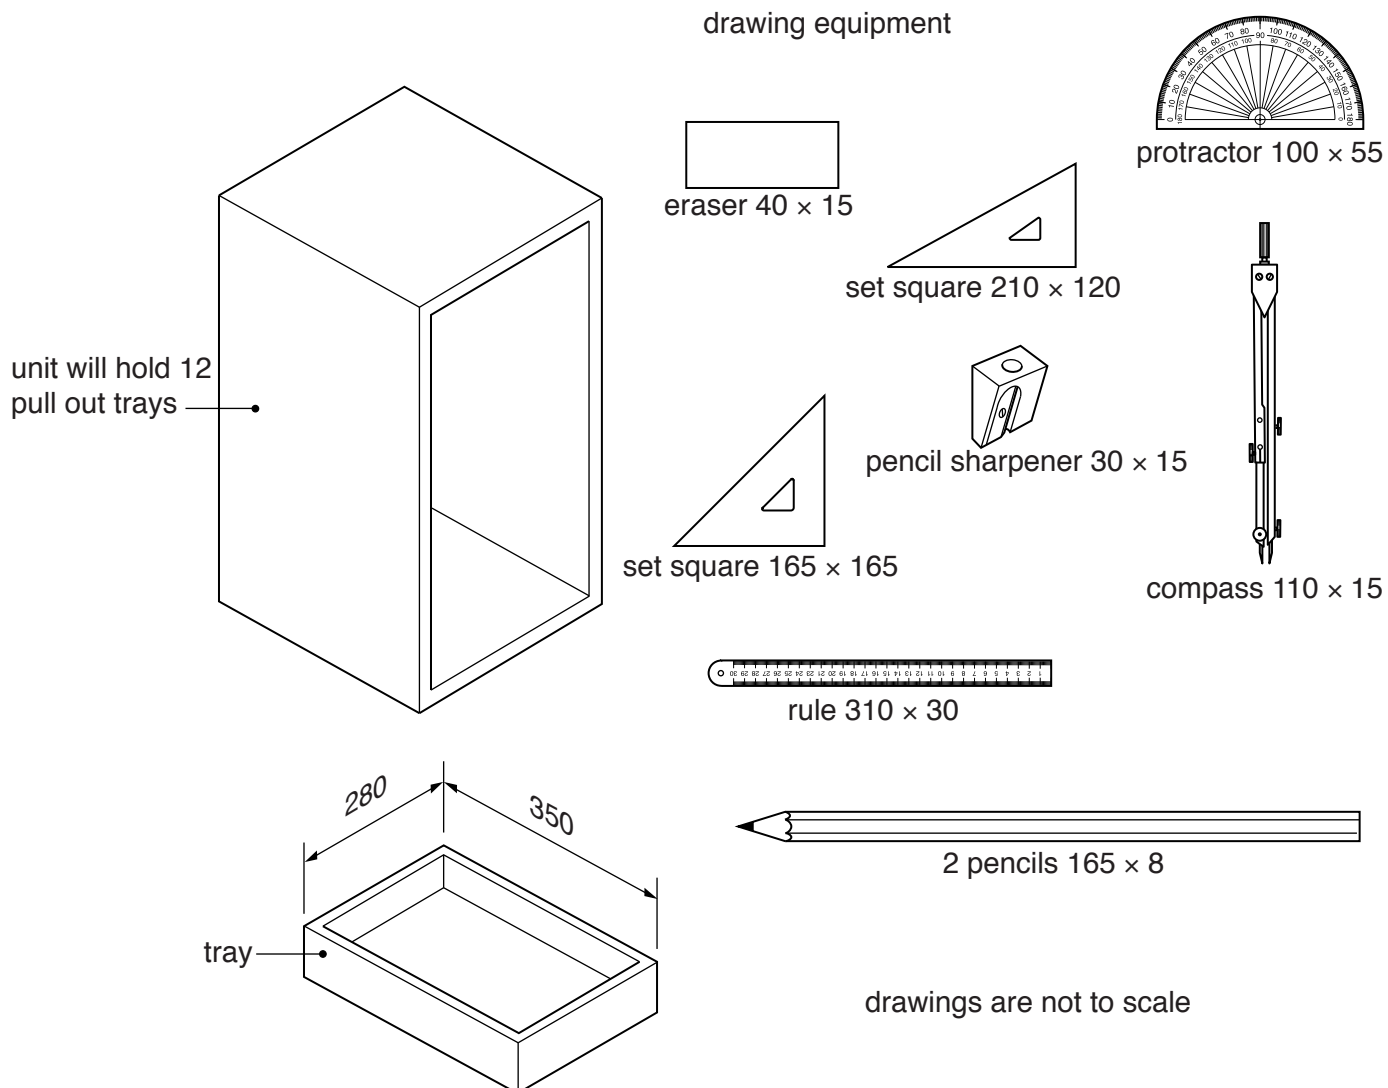

Fig. 9
- 9 Fig. 9 shows an incomplete idea for a storage unit to hold twelve sets of the drawing equipment which is illustrated.